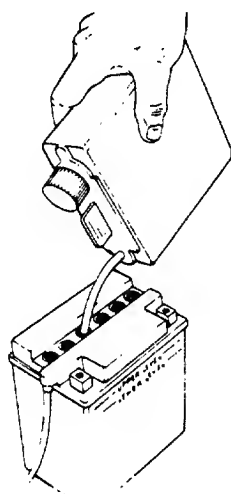

FIGURE 2.
5. Fill each battery cell slowly and carefully to the **UPPER LEVEL** line marked on battery. See figure 2. Use caution as the acid level will rise rapidly after the bottom of the cell is filled.